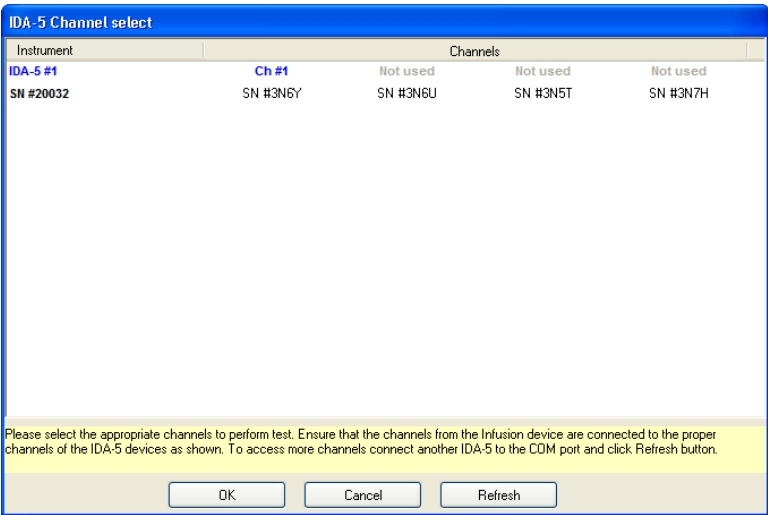

Figure 3-9. Channel Select Window
11. Click  to show the **Channel select** window in Figure 3-9.